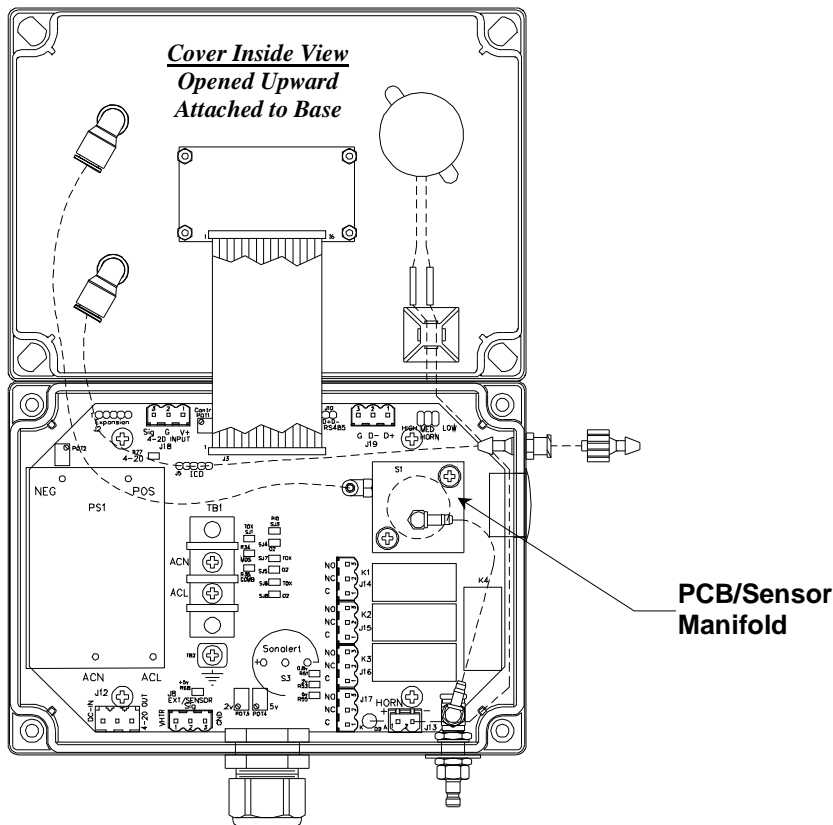

Figure 8: PID-GUARD Sensor Replacement
- Remove, the sensor assembly from the PCB/sensor manifold, see **Figure 8**.